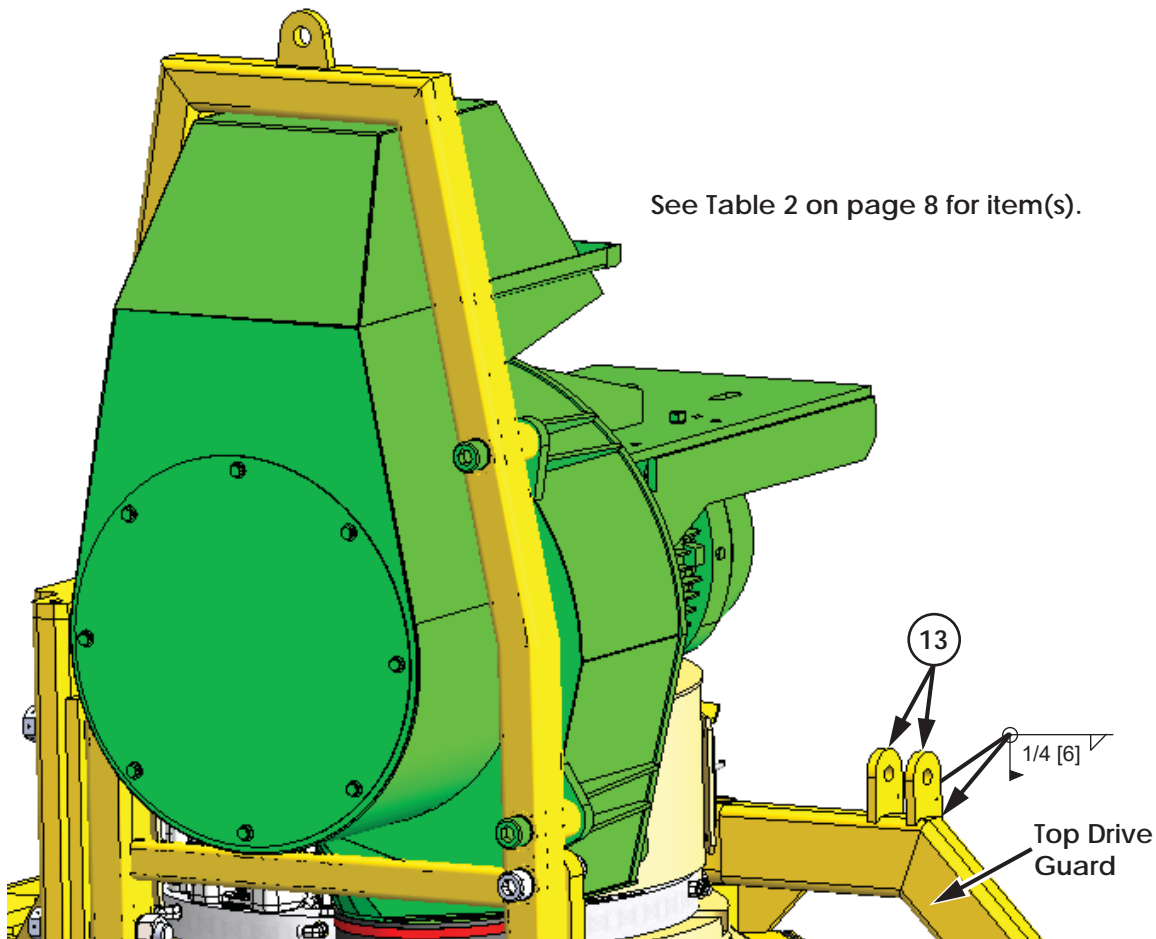

Figure 10: Welding pad eyes – item 13 (2 each) – to Top Drive Guard
Follow steps below to install the new top drive blower (P10576-X). Refer to Table 2 on page 8 for items indicated on Figure 10.
1. Prepare area for welding. Clean area (see item 13 on Figure 10) and remove paint.